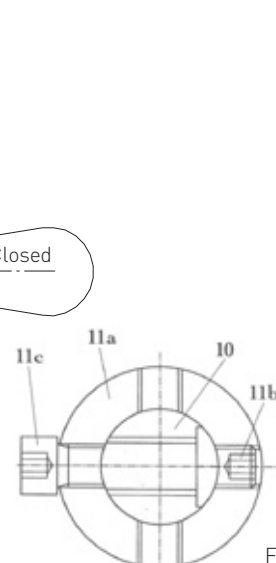

Figure 19
- 2.4 Position the locating screw (11c) in the spring support hole which is aligned with the non-countersunk side of the tie rod hole [see Fig. 19].